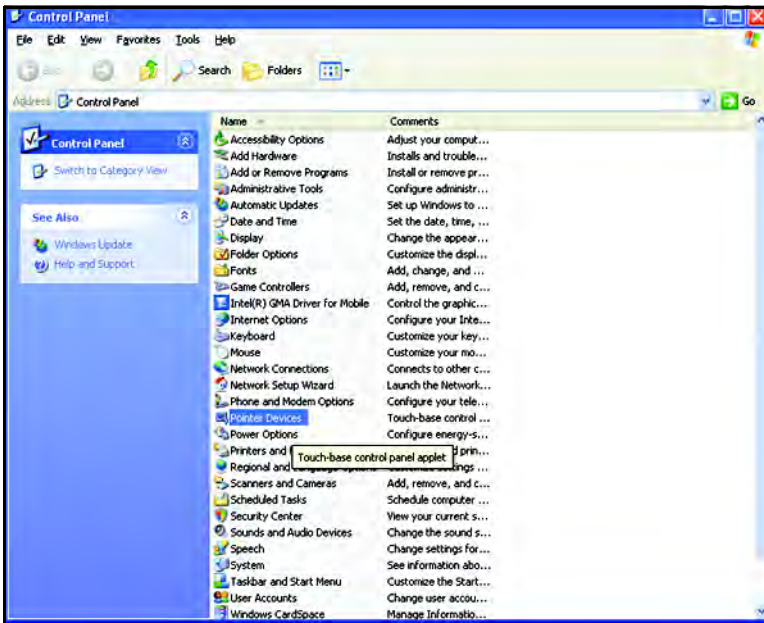

Figure 123: Control Panel with Pointer Devices Icon
1. Start the USM Vision+ as an *Administrator*. From the USM Vision+ *Control Panel*, launch the touch-base control panel applet by double-clicking the Pointer Devices icon, as shown in *Figure 123* below.